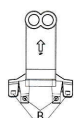
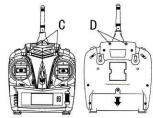

Figure 1
Figure 2
1. Attach Phone Holder Accessory (Figure 1) Slot A & B Onto The Radio Controller (Figure 2) Slot D & C Shown On The Diagram.